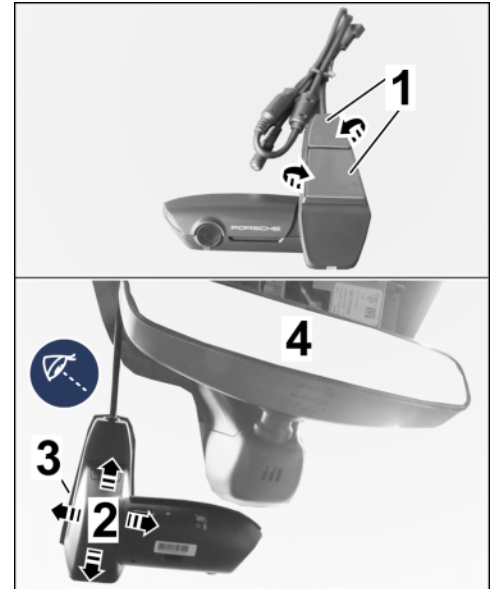

Figure 9
- 2.2.4 Pull protective film off the front camera retainer plate (⇒ *Figure 9-top-*).
Align front camera with retainer plate symmetrically with respect to the 3M privacy film (⇒ *Figure 9-bottom-*).